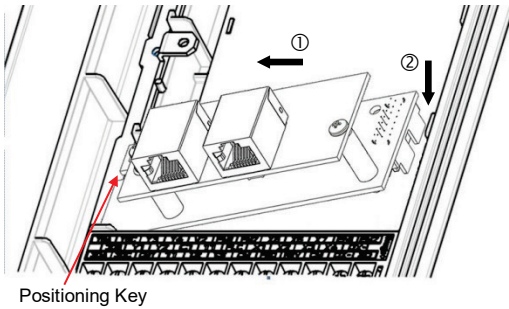

Figure 7: Mounting the Interface Card
2. Rest the left-hand side of the interface card on the control PCB's A-port mounting support. Align the positioning notch on the interface card with the A-port positioning key, and then slide the interface card to the left to engage the key into the notch. Refer to step ① in Figure 7.
3. Rotate the right-hand side of the interface card downward to engage connector CN1 (on the back of the interface card) into the A-port connector (CN4) on the inverter's control PCB. Ensure that the connectors are fully engaged. Refer to step ② in Figure 7.